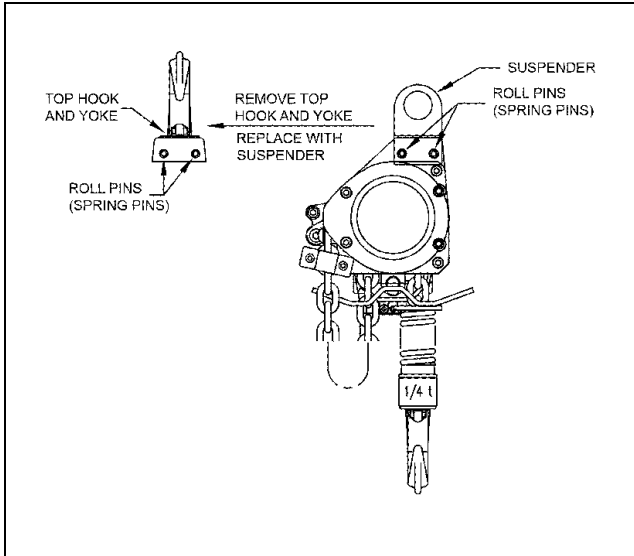
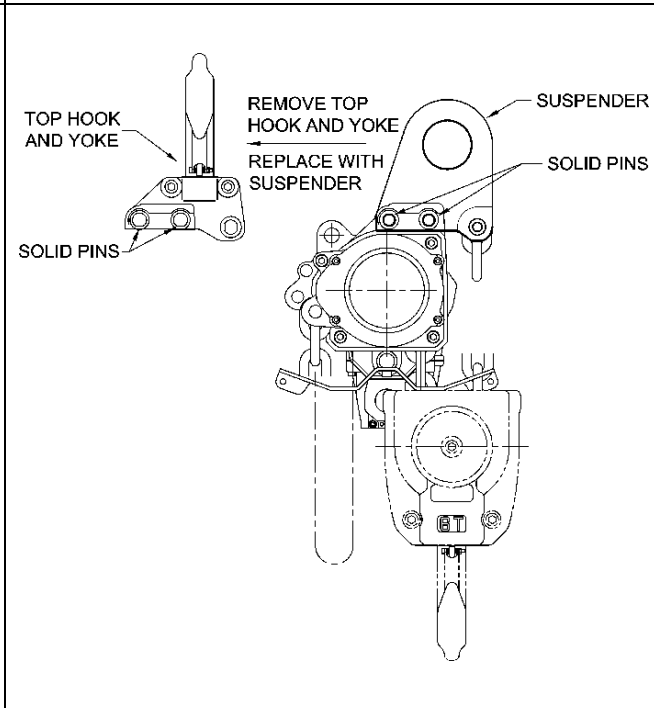

Figure 3-1 TCE250 / TCE500
Figure 3-4 TCE6000
- 3.1.3 Standard configuration for a TCE hoist is lug mounted to the trolley using a TCE to VLPT/VLGT Suspenders. As shown in **Figure 3-1** through **Figure 3-4**.
TCE250C/P and TCE500C/P (Refer to Figure 3-1)
TCE6000C2/P2 (Refer to Figure 3-4)